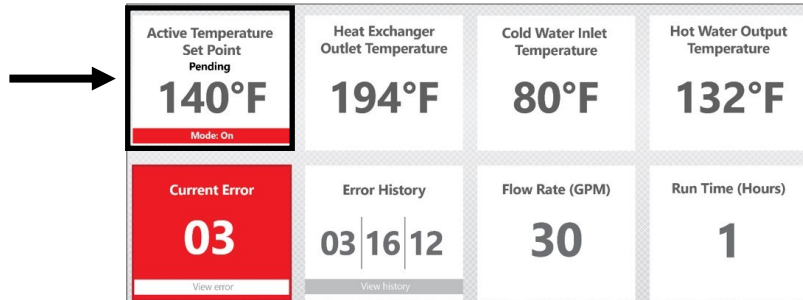

Fig 73. Active Temperature Set Point Box
1. On the tankless water heater parameter screen, press the “Active Temperature Set Point” box (Fig 73).